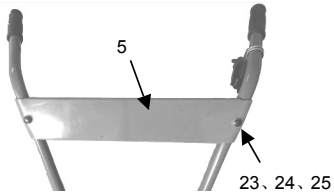

Figure 9
7. Refer to figure 9 to install the safety plate.